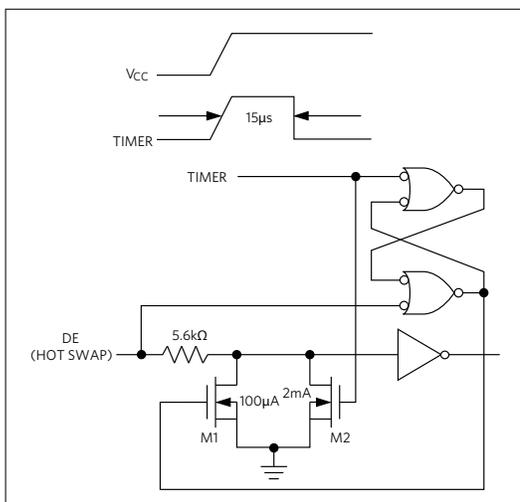

Figure 6. Simplified structure of the driver enable pin (DE)
How does this internal hot-swap circuitry work? At the driver-enable input (DE), there are two nMOS devices, M1 and M2 (Figure 6). When V_{CC} ramps from zero, an internal $15\mu\text{s}$ timer turns on M2 and sets the SR latch, which also turns on M1. Transistors M2, a 2mA current sink, and M1, a $100\mu\text{A}$ current sink, pull DE to GND through a $5.6\text{k}\Omega$ resistor. M2 pulls DE to the disabled state against an external parasitic capacitance up to 100pF that may drive DE high. After $15\mu\text{s}$, the timer deactivates M2 while M1 remains on, holding DE low against three-state leakage currents that may drive DE high. M1 remains on until an external current source overcomes the required input current. At this time, the SR latch resets M1 and turns off. When M1 turns off, DE reverts to a standard, high-impedance CMOS input. Whenever V_{CC} drops below 1V, the input is reset. A complementary circuit for $\overline{\text{RE}}$ uses two pMOS devices to pull $\overline{\text{RE}}$ to V_{CC} .